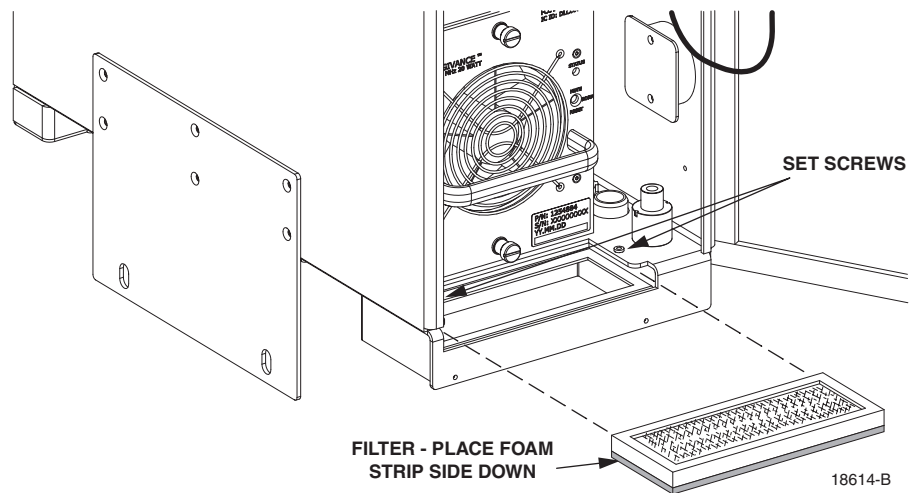

Figure 5-1. Cabinet Filter Removal and Replacement
2. Loosen the two set screws that secure the filter to the bottom of the outdoor cabinet as shown in Figure 5-1.
6. Orient the filter so the foam sealing strip is facing downward and then re-install the filter in the filter mounting slot (see Figure 5-1) at the bottom of the cabinet.